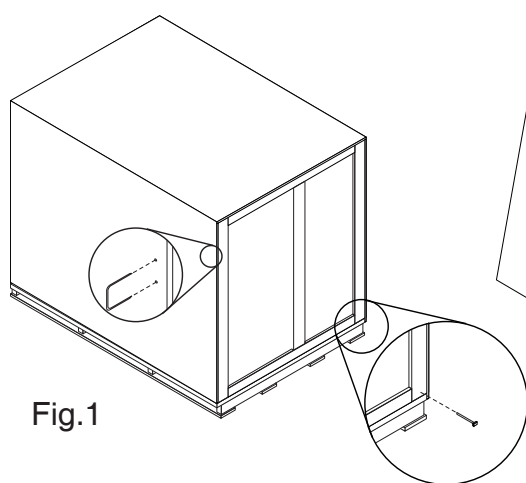

Fig.1
- Remove the staples fastening the cardboard to the wooden side panel and frame (Fig.1).